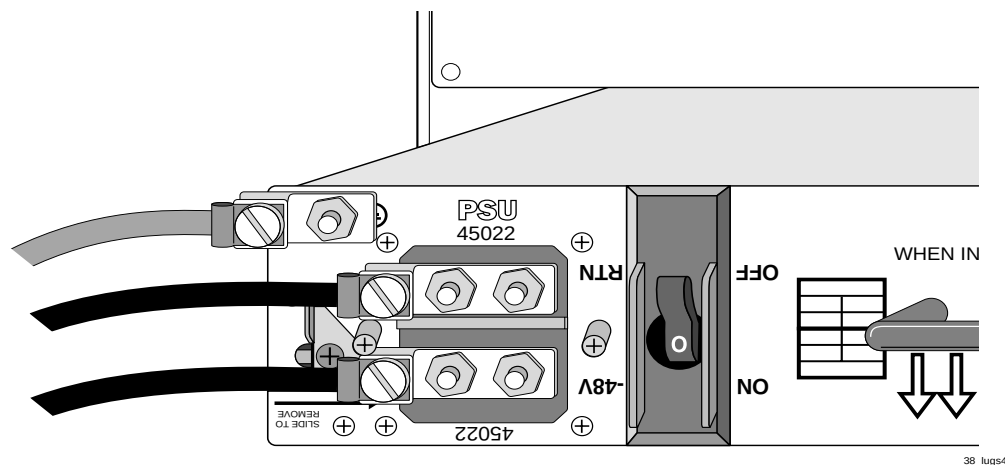

Figure 2: Alpine 3804 DC power supply with cables attached
- 8 Attach the DC power and ground cables to the power supply, as shown in Figure 2.